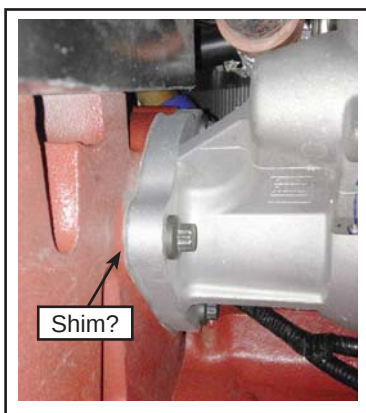

Figure 2 - Location to Look at for a Shim
- 1.4. Inspect whether a shim was installed between the starter flange and the flywheel casing. See Figure 2.